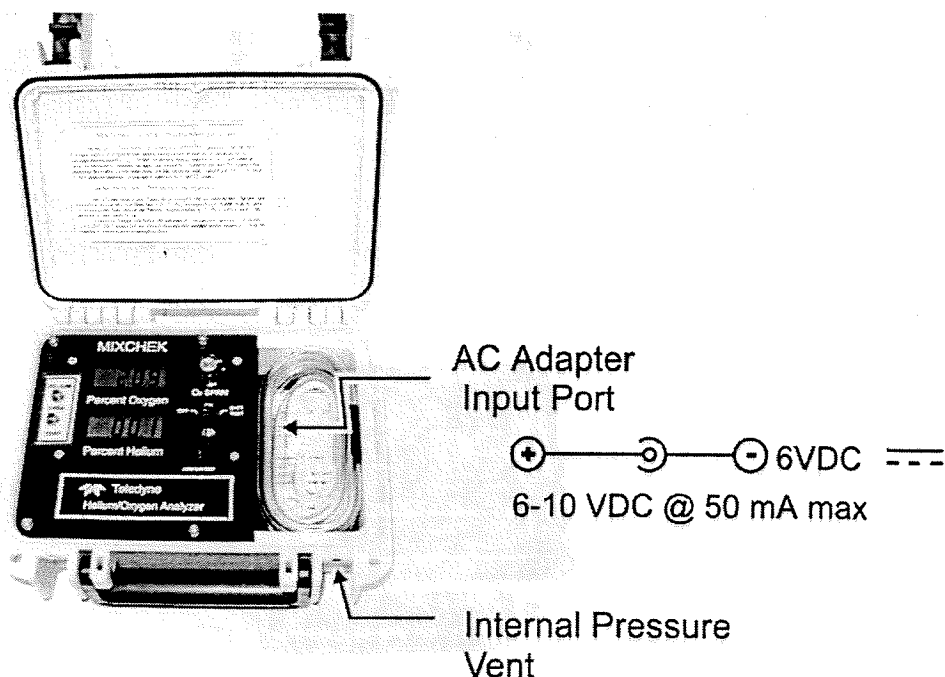

Figure 3-5: Power Adapter Port (Portable Model)
The portable model is powered from 4 C-cell batteries which must be installed prior to placing the instrument in service. See Section 3.6. The portable unit can also be powered using the optional 6 VDC power adapter, P/N A558 (US) or A555 (CE). When using the adapter, insert the jack into the port on the side of the front panel near the ON/OFF/BATT TEST switch as shown in Figure 3-5. This figure also shows the internal pressure vent port which allows the instrument to vent and return to atmospheric pressure before the lid is opened.